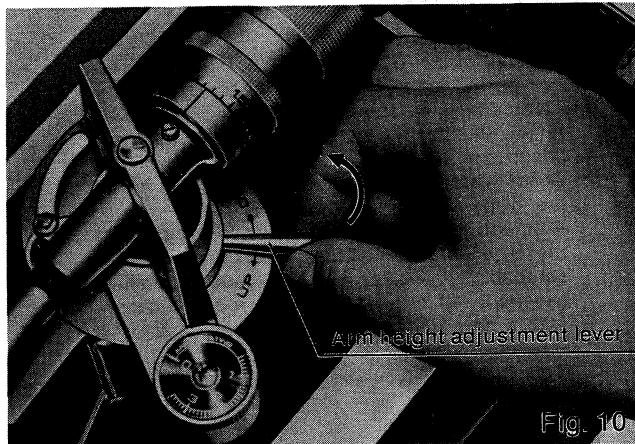

Fig. 10
2. While turning the arm height adjustment lever to the "DOWN" position, adjust the tubular arm until it is nearly parallel with the record surface. (See Fig. 10).